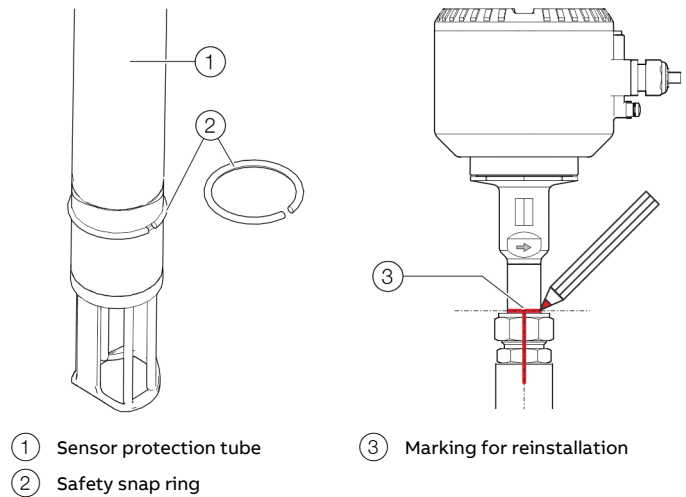
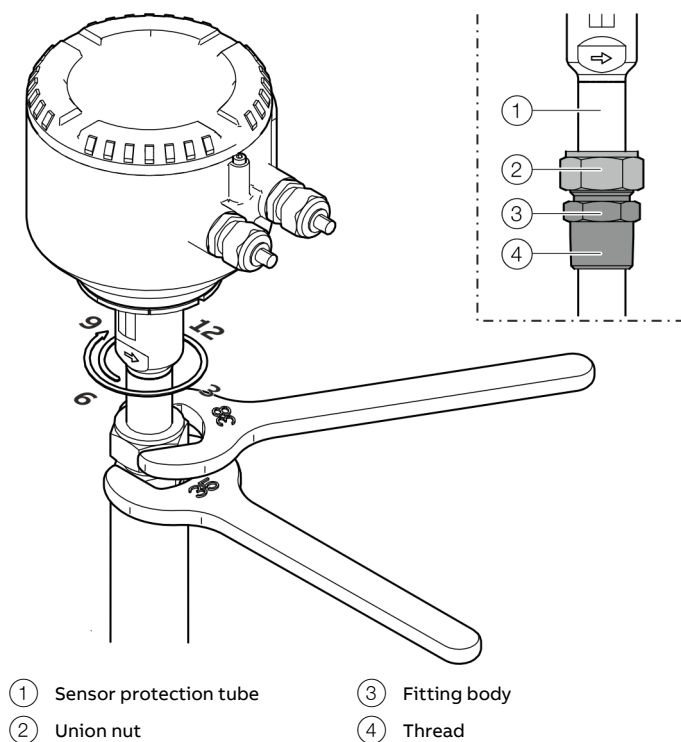

Figure 23: Snap ring and marking
Figure 24: Tighten sensor
2. Insert the safety snap ring using mounting pliers (see Figure 23, Pos. ②).
5. Using a suited marker pen, mark the orientation and height of the sensor on the sensor protection tube, compression fitting and the welding adapter (see Figure 23, pos. ③). The marking on the union nut is also used as a starting position (6 o'clock position, see Figure 24) for the tightening of the compression fitting
3. Using a suited marker pen, mark the orientation and height of the sensor on the sensor protection tube, compression fitting and the welding adapter (see Figure 23, pos. ③).
1. Make sure that the safety snap ring is inserted in the provided snap ring groove (see Figure 23, pos. ②).